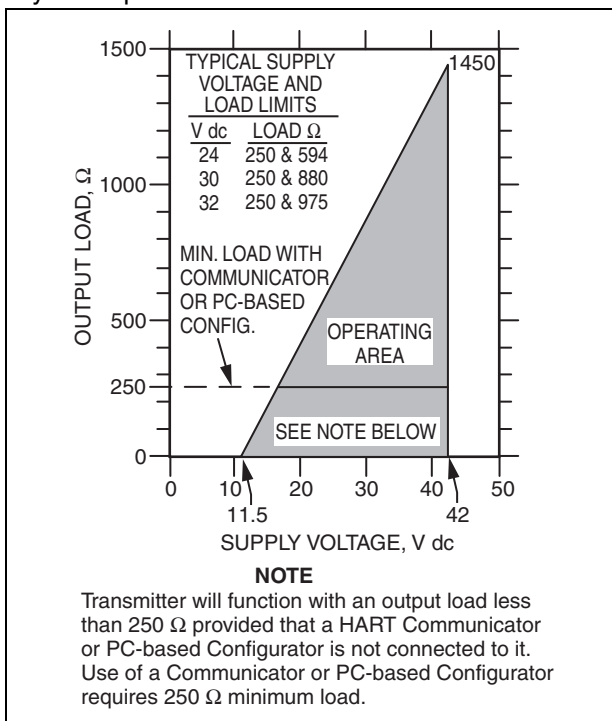

Figure 5. 4 to 20 mA Output, Supply Voltage vs. Output Load
**Supply Voltage Requirements and External Loop Load Limitations (Figure 5)**